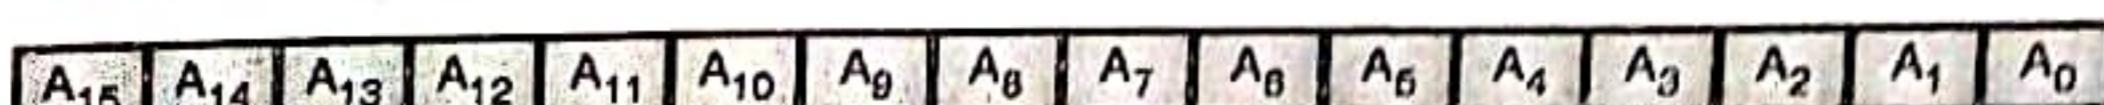

Fig. 13.4 : DMA address register
- (a) **DMA address register** : It is a 16 bit register. It is used to hold the starting address of memory. This register is incremented after each DMA cycle. If the address register is read in the middle of a DMA operation, it provides the address of next memory location. The format of address register is as shown in Fig. 13.4. A memory address must be programmed before the channel is enabled.